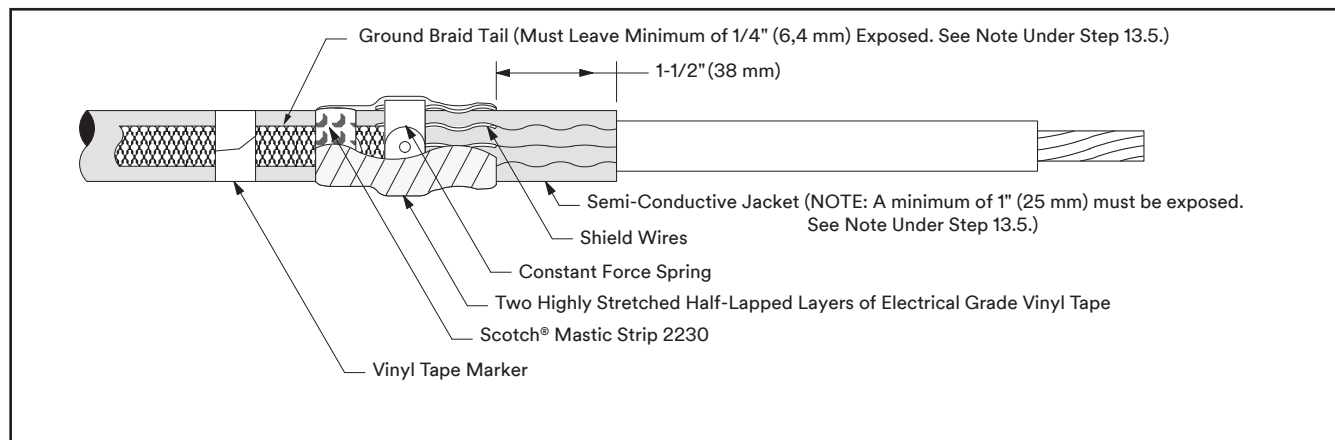

Figure 24
13.5 Wrap two highly stretched half-lapped layers of electrical grade vinyl tape around mastic seal, constant force spring and exposed shield wires (Figure 24). Be sure to cover all exposed mastic **AND TO READ THE GROUND BRAID NOTE BELOW CONCERNING APPLICATION OF THE TWO HIGHLY STRETCHED LAYERS OF ELECTRICAL GRADE VINYL TAPE.**